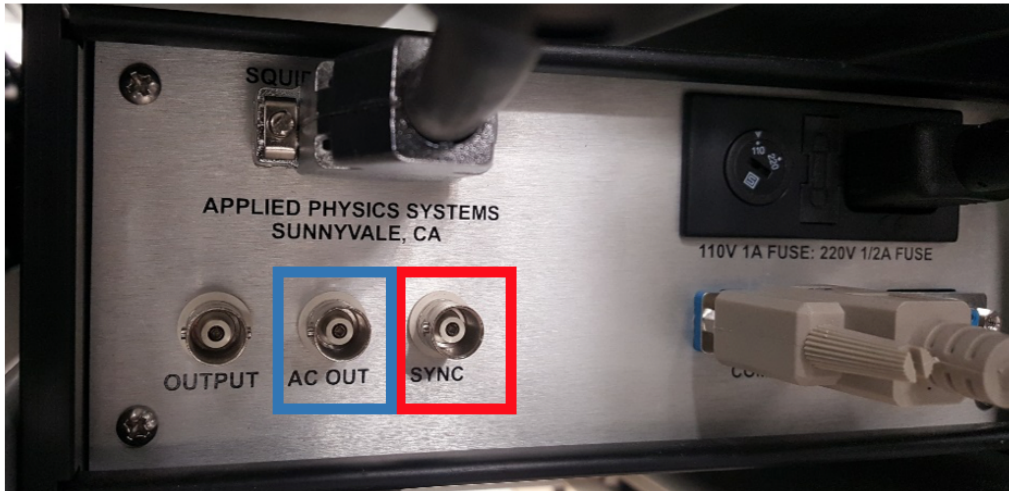

Figure A6: Back of the Z axis 581 DC SQUID Box. Connect AC Out (Blue box) to Channel 1 on the oscilloscope.
2. Connect the oscilloscope Aux IN to the SYNC on the Z axis SQUID box and connect oscilloscope Channel 1 to the AC Out on the back of the Z axis SQUID box. (**Figure A6**)